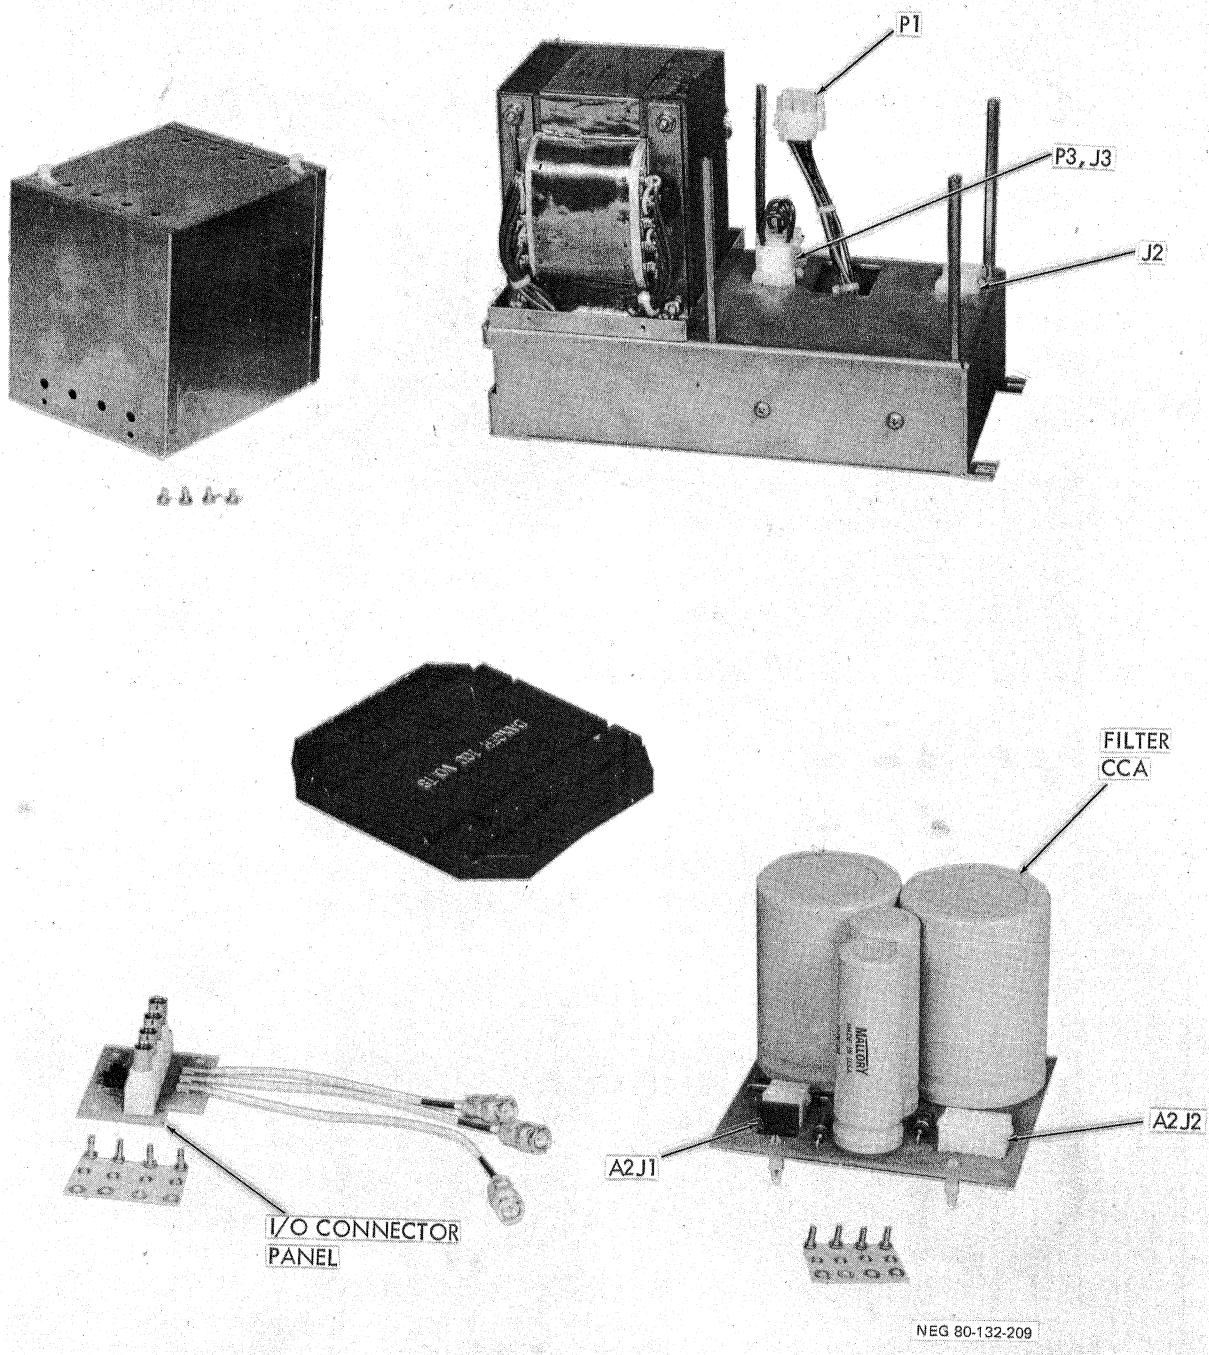

Figure 5-6. Low Voltage Power Supply
2. Disconnect cable harness connector from J2 on low voltage power supply chassis. See figure 5-6.